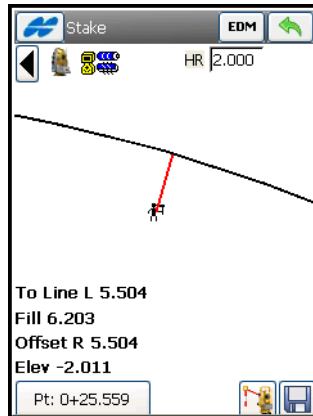

Figure 9-25. Stakeout Curve
4. For TS: sight the prism. On the **Stake Point** screen, tap the  button to check the position (Figure 9-25). Once the position is close enough to the curve and at the desired distance from the starting point, tap  to store it.